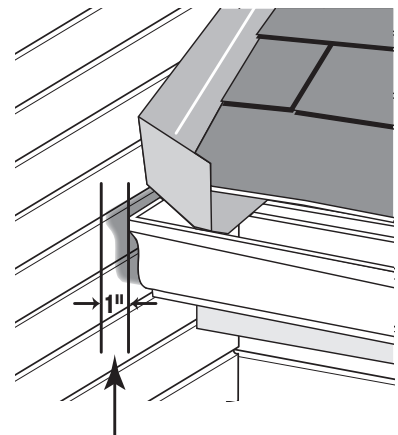

Figure 9
- Kick out flashing is required in areas where the roof and gutters are adjacent to the siding. Provide a 1 in. clearance between the gutter end and the siding (see Fig. 9).